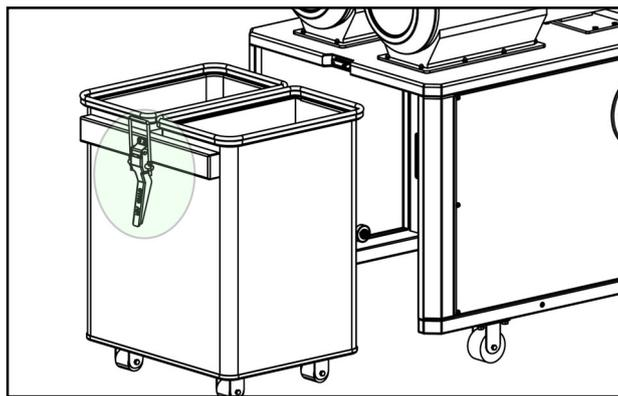

Fig. 14
As shown in Fig. 14, release the handle and pull out the dust bin. After emptying the bin, push the bin back into the end of the cabinet and lock the handle.
6.1 Cleaning Dust Bin (Fig. 14)